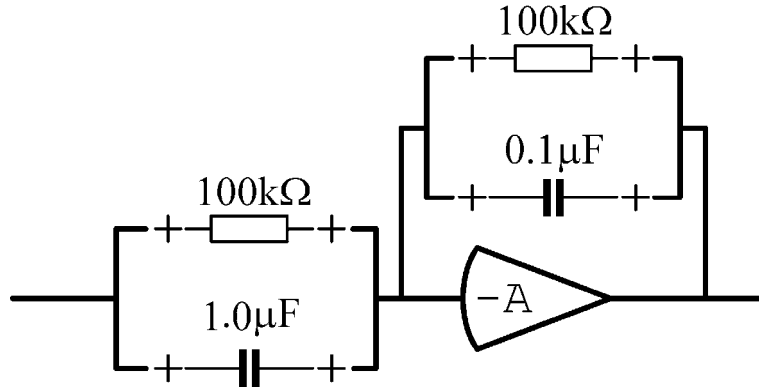

Figure 4
3. Read through the details of this lab carefully, making sure you understand how the transfer function $H_I(s)$ relates to the compensator circuit (figure 4). If at any stage you are unsure how a MATLAB command works, use
We now implement the transfer function $H_1(s)$ by means of an op-amp compensator circuit: see figure 4.
Now verify that the compensator circuit shown in figure 4 corresponds to $H(s)$. We are now ready to implement the control scheme:
6. Place the compensator components across terminals E and C as shown in figure 4.